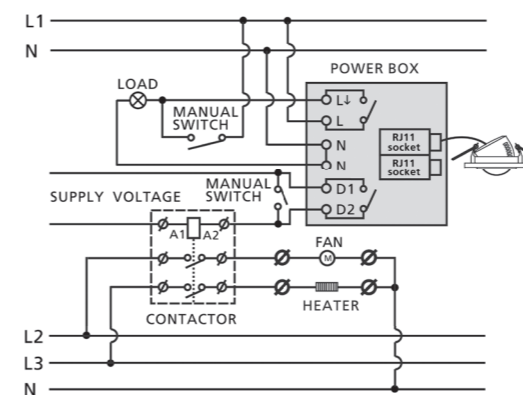

Fig. 3
3.2.1 PDFM362 controller (see Fig. 3).